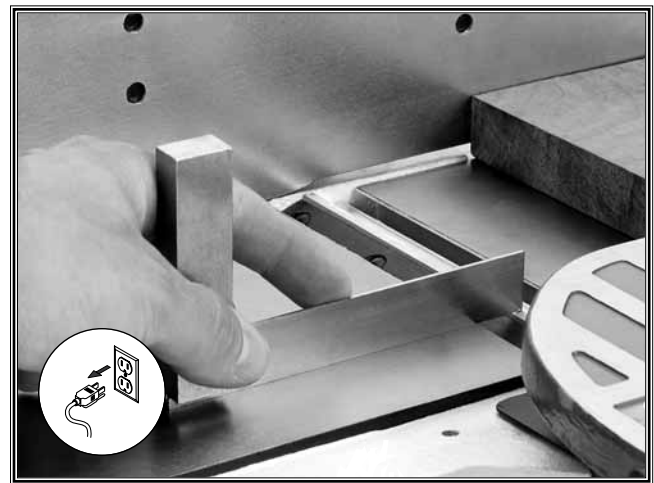

Figure 26. Checking the blade height.
5. At both ends of the cutterhead, the straightedge must just make contact with the blade (Figure 26). Watch and make sure the straightedge is not lifted from the outfeed table surface when contact is made with the cutterhead blades.